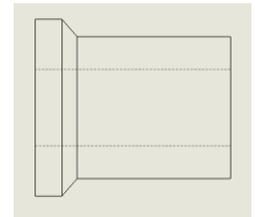

Figure 3
- Modify Outer Spacers by machining or drilling outer spacers to match large ($\frac{3}{4}$ "") bore as shown. Ensure spacers slide freely over full length of pivot shaft. See Figures 3 and 4